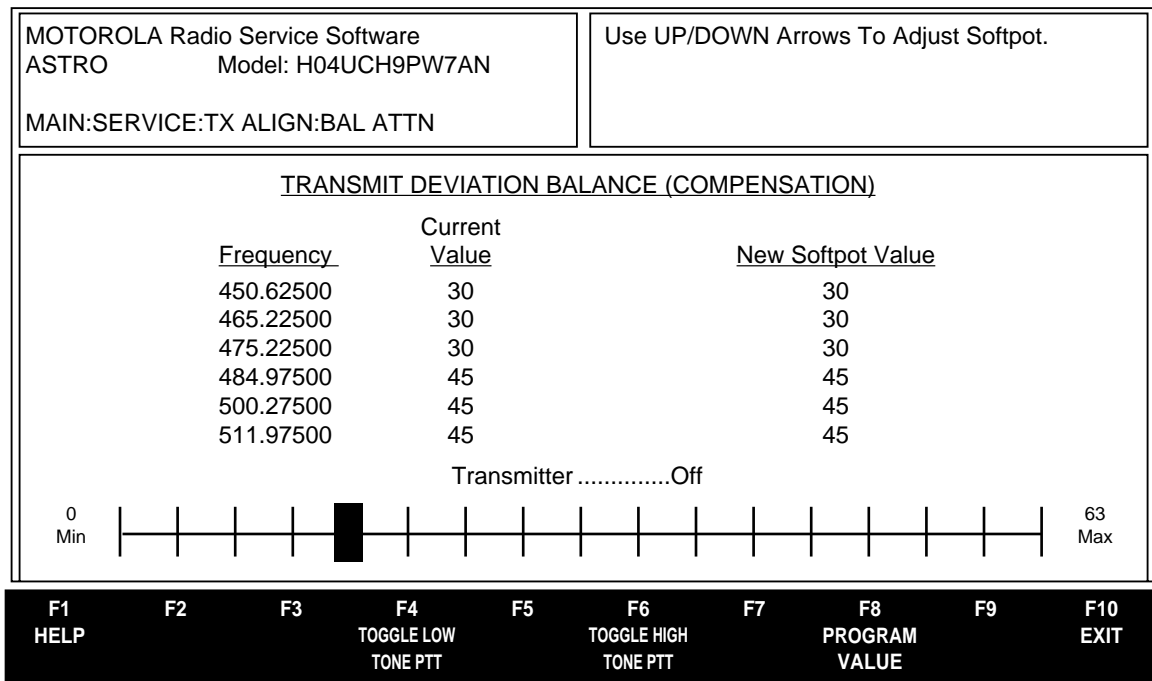

Figure 6. Transmit Deviation Balance (Compensation) Alignment Screen
2. Press **F4** to select the TRANSMIT DEVIATION BALANCE (COMPENSATION) alignment screen. The screen will indicate the transmit frequencies to be used. See Figure 6.